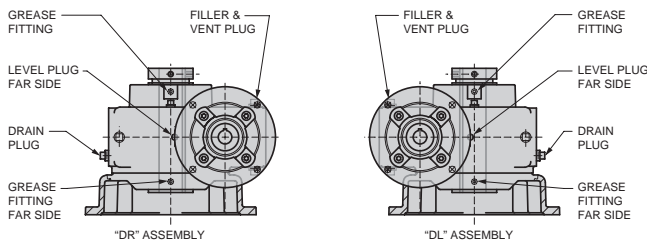
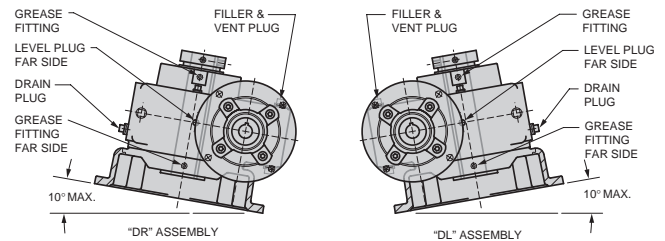

FIGURE 1 HORIZONTAL MOUNTING
FIGURE 2 ORIENTATION AND MAXIMUM TILT FROM HORIZONTAL
A. Drywell speed reducers are designed to operate with the mounting flange down and the output shaft in a vertical position, as shown in figure 1. Angular mountings up to 10 degrees off the horizontal can also be accommodated, but only if oriented as shown in figure 2. Any other orientation could cause a failure of the Drywell system.
B. The oil level must be established based on the level plug location as shown in figures 1 and 2 and while mounted in the operating orientation. When changing orientations, first lower the oil level and then re-establish the proper oil level in the new mounting position.